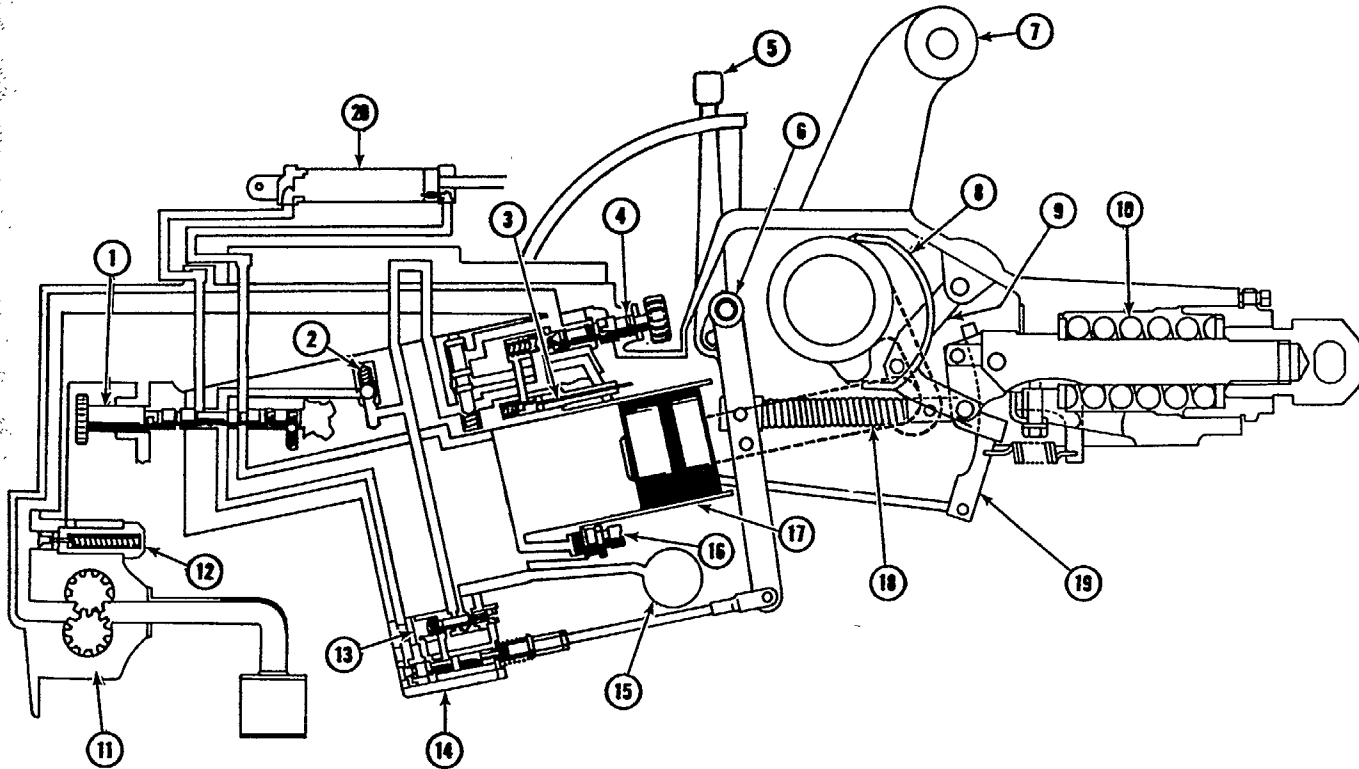
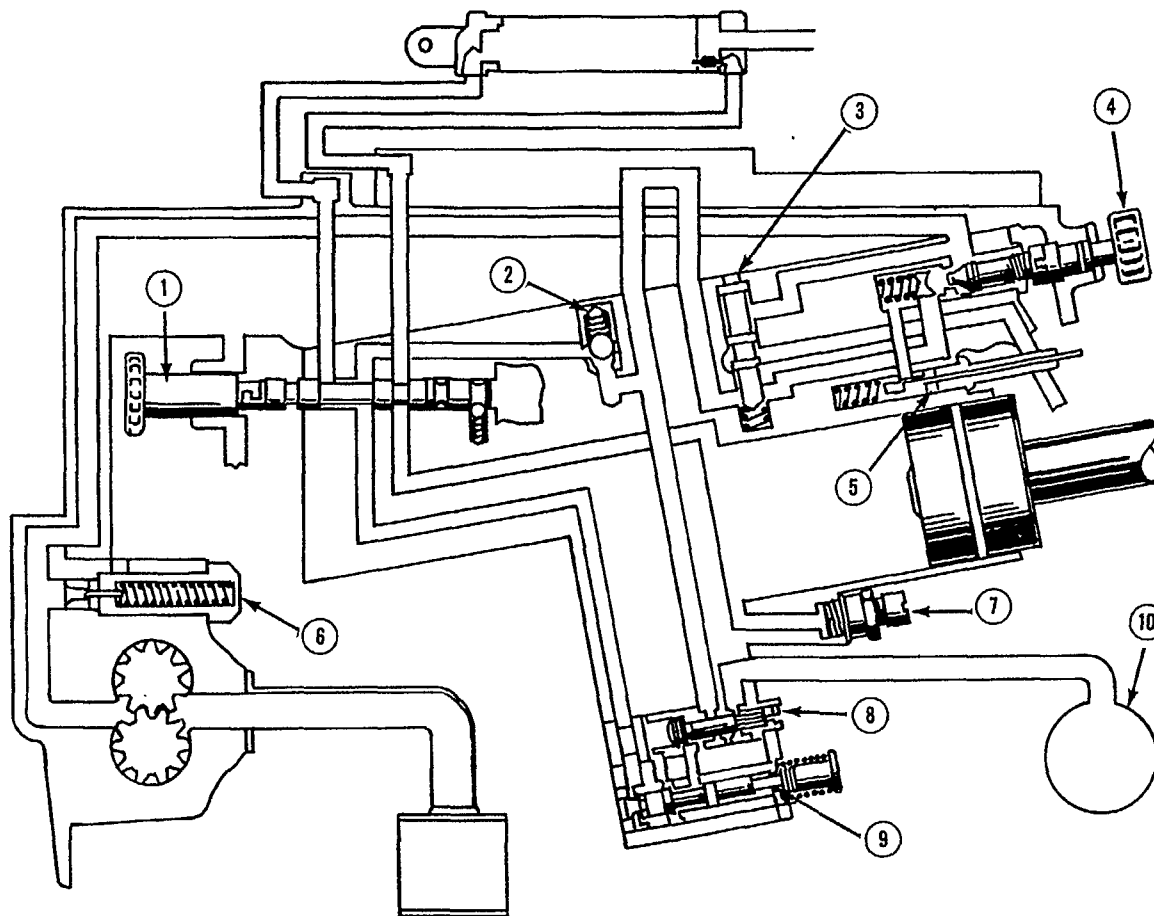

Figure 1
Figure 5
Figure 1 illustrates a schematic of the valves, controls, and related linkage found in the lift cover of the Load
The valves, shown in Figure 1, are described in this section. The relationship of these valves is shown in schematic form in Figure 5 without the mechanical linkage which was described in the preceding section.
The flow control valve knob (4), Figure 5, is an external control. Its setting determines the rate of oil flow into the lift cylinder. Turning the knob clockwise, in the direction of the tortoise, decreases this rate of flow. Conversely, turning the knob counterclockwise, in the direction of the hare, increases this rate of flow. The setting of the flow control valve is overridden to obtain maximum flow when the lift control lever is raised beyond the fixed stop at the top of the quadrant.
The auxiliary service selector valve knob (1), Figure 5, is the only external control not yet covered. This valve
The spool of the lift control valve (9), Figure 5, is connected by a turnbuckle to the actuating lever. Thus, it is always controllable with the lift control lever, or the control rod, depending on the position of the control rod roller with respect to the linkage assembly.
The unload valve (8), Figure 5, is operated solely by oil pressure directed by the lift control valve spool. The unload valve spool has only two positions; one for raising action, and one for neutral and lowering action. In the neutral position, the unload valve allows pumped oil to exhaust to sump. In the raising position, the exhaust passage is blocked, thus pumped oil is directed to the lift cylinder to effect raising action.
This valve (5), Figure 5, is mechanically operated by the action of the lift control lever when it is moved toward the top of the quadrant; an actuator, located on the lift control lever pivot shaft, pushes the override plunger further into the housing causing the rate of flow of oil into the lift cylinder (normally controlled by the flow control valve setting) to increase to the maximum rate, resulting in a quick raise of the implement.
The by-pass valve (3), Figure 5, is located adjacent to the check valve in the lift cylinder. This simple non-return valve allows the oil not admitted by the flow control valve to by-pass the circuit and return to sump.
The back pressure valve (10), Figure 5, is located in the hydraulic oil filter manifold. This spring operated valve maintains a minimum pressure of approximately 35 psi (2.11 kg/cm²) in the system at all times. This maintains correct positioning of the unload valve while allowing the remainder of the exhausting oil to pass through the hydraulic oil filter.
This is a simple one-way check ball valve located at (2), Figure 5, which allows oil to pass to the lift cylinder or auxiliary circuit, but will not allow it to return (reverse direction). A spring holds the ball on its seat.
The relief valve (6), Figure 5, is located in the hydraulic pump and limits the maximum pressure at which oil enters the system to prevent overloading of the components.
This valve (7), Figure 5, is spring operated and fitted directly into the lift cylinder. If shock loadings are encountered, for example: transporting heavy equipment over rough terrain, the safety valve opens to relieve the pressure and thus protect the components of the system.
Refer to Figure 5 and note that by moving the selector valve to the full out position, pump pressure oil is diverted from the system ram cylinder to the special Load Monitor remote cylinder. At the same time, return oil from the rod end of the special remote cylinder is routed to the tractor lift cylinder. This latter feature retains the lift cylinder piston in the circuit so that the lift shaft will turn and return the control valve spool to neutral once both cylinders have reached the end of their stroke.